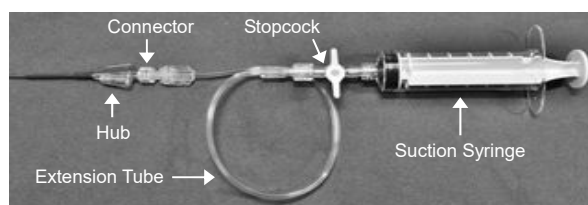

Figure 1. Installation of Thrombuster II and Syringe kit (with the core wire)
- Attach the Syringe kit onto the connector of the core wire of this catheter, as shown in Figure 1.